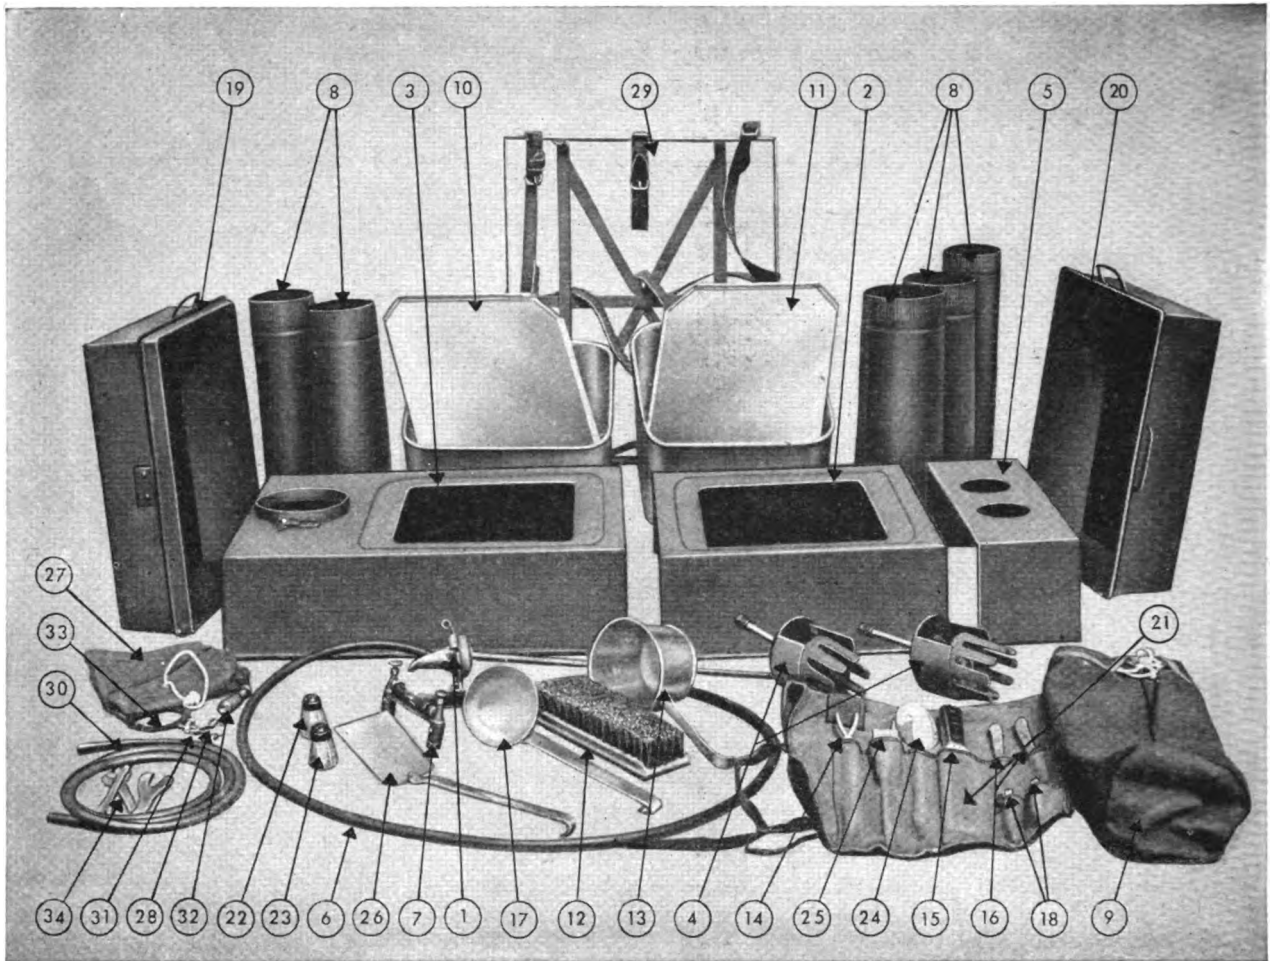

Figure 17. Components and accessories outfit, cooking, pack.
(1) The range and its accessories.
(2) The utensils.
(3) The tool and maintenance set.
b. The components of the outfit (see fig. 17) are itemized below: